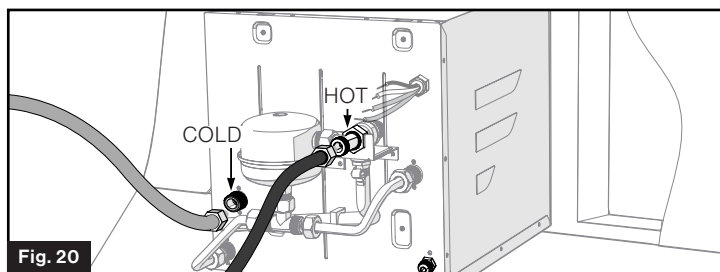

Fig. 20
1. Connect both HOT and COLD water lines to the appropriate ½" NPT fittings. (Fig. 20)